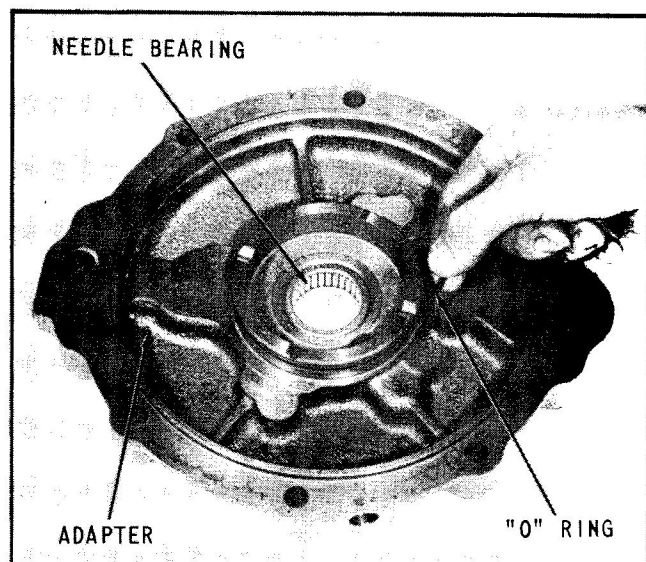

Fig. 52 Install Clutch Hub "O" Ring
23. Assemble the reverse clutch rubber sealing rings on clutch piston and adapter hub. Lubricate and press piston into bore of adapter, (Figs. 52 and 53).